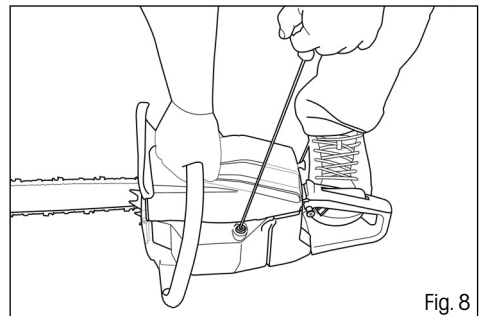

Fig. 8
4. Place the chain saw flat on the ground so that it is stable and pull on the handle of the starting cord until the engine rotates (the engine will show signs of attempting to start) (Fig. 8).
2. Pull on the handle of the starting cord until the engine starts up (Fig. 8). DO NOT USE THE CHOKE!